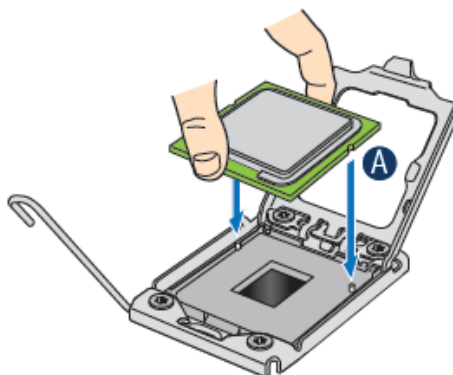

Figure 12. Installing the Processor
9. Align the processor cutouts to match the two socket pins, and then insert the processor into the socket as shown in Figure 12.